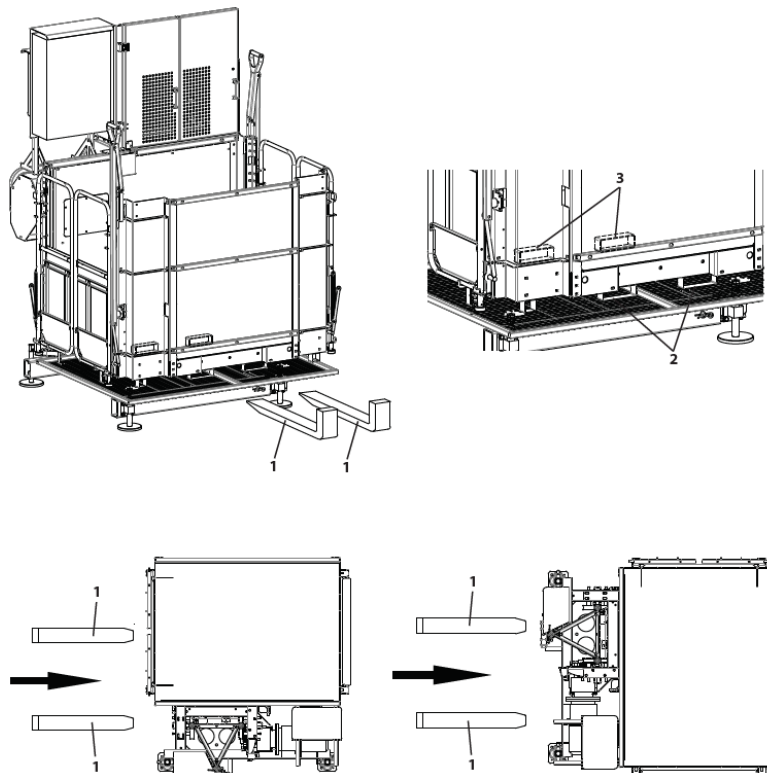
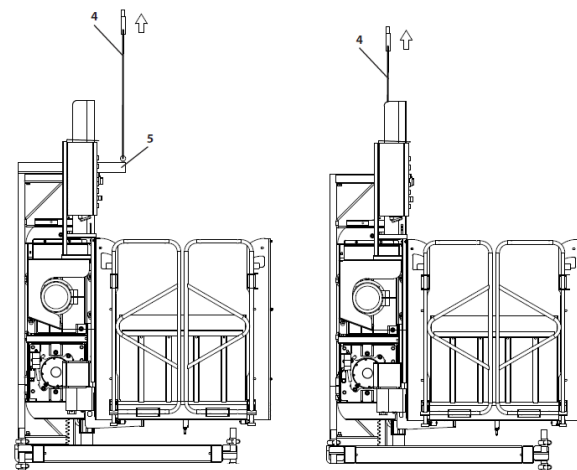

Figure 5.1
Figure 5.2
- use lift trucks as shown in figure 5.1 when handling the material. A crane can be used figure 5.2 on one forming part of the transportation vehicle itself or any other used in the construction site. It is necessary for the lifting equipment to have adequate strength to lift the load